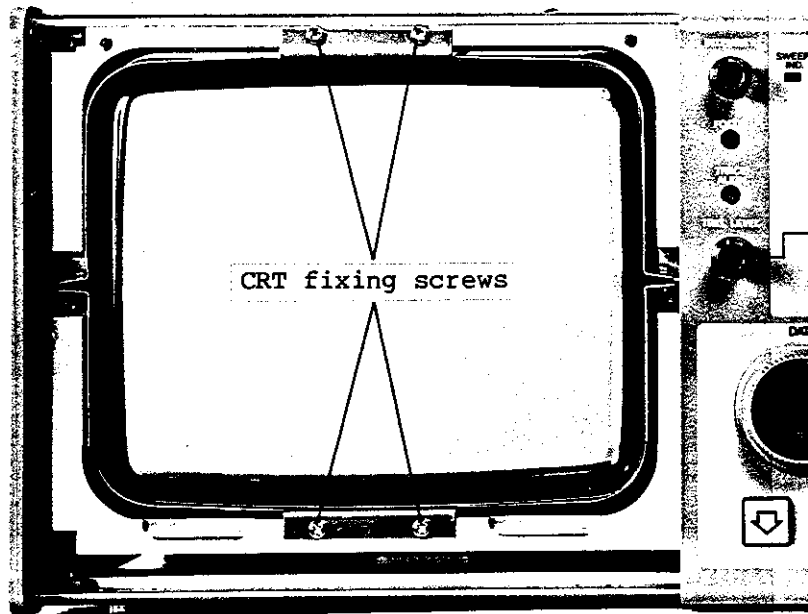

Fig. 13-8 CRT fixing screws
(12) CRT
Wait five minutes after the power is turned off. Referring to items (8) and (11), remove high-voltage block cover. Take away anode cap from CRT. Remove CRT socket disposed on CRT rear panel. Referring to the disassembly diagram, remove CRT filter. Release four screws fixing the CRT (Figure 13-8). Push out CRT from rear side.